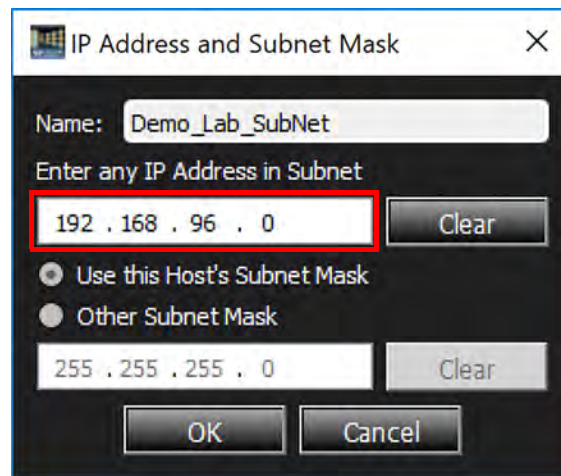

Figure 2.71: Adding a Subnet with Host Mask
- b. Enter an IP Address for the Subnet (Figure 2.71).